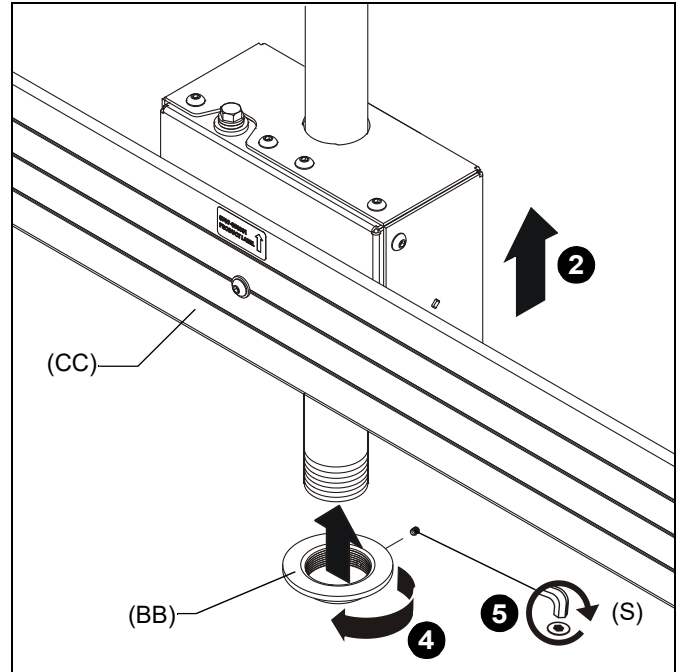

Figure 2
2. Slide ceiling mount (CC) up from below onto installed column (not included). (See Figure 2)
4. Thread bottom coupling (BB) onto installed column until tight, with a minimum of four threads engaged. (See Figure 2)
5. Install and tighten one 10-24 x 1/4" set screw (S) into bottom coupling (BB). (See Figure 2)